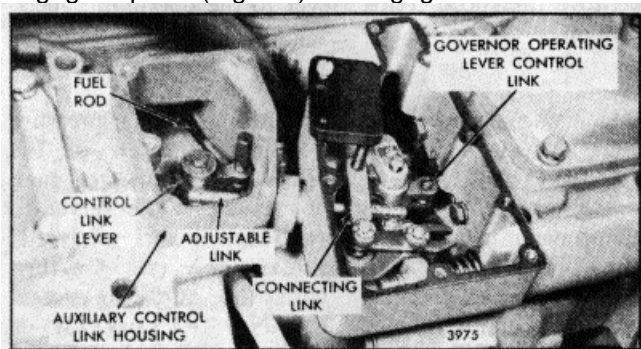

Fig. 11. - Control Link Levers in Position
If the engine or governor has been overhauled, or the injector control linkage has been disturbed, the control link levers in the governor housing and auxiliary control link housing must be aligned before proceeding with the engine tune-up. Refer to Fig. 11 and position the control link levers as follows:
6. Remove the connecting pin from the control link lever in the governor housing and install gage J 21780. Install the gage so the pin extends through the connecting link, control lever and fuel rod and the governor housing dowel pin extends into the small hole in the gage. Then, install a governor cover bolt to lock the gage in place (Fig. 11). With gage J 21780 in